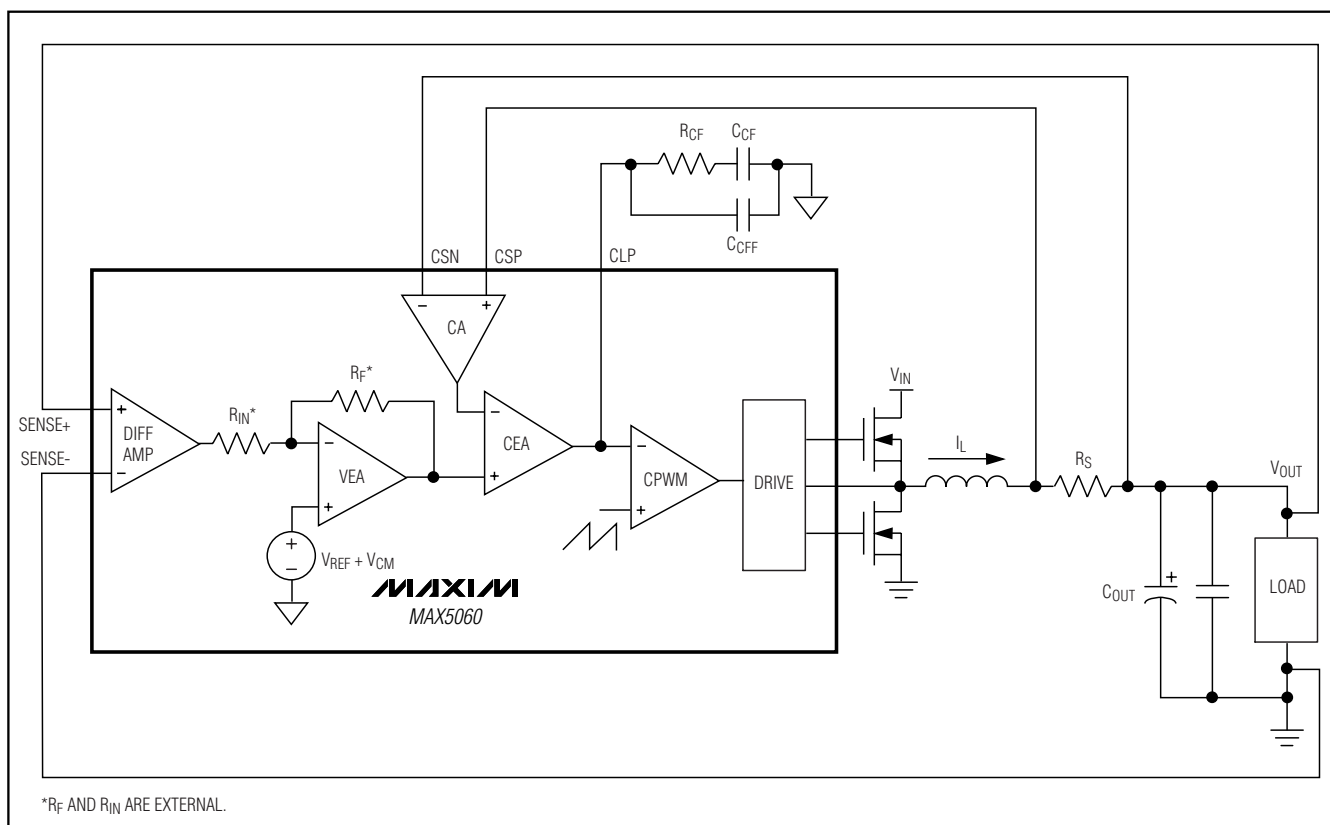

Figure 5. MAX5060 Control Loop
The MAX5060/MAX5061 use an average-current-mode control scheme to regulate the output voltage (Figure 5). The main control loop consists of an inner current loop and an outer voltage loop. The inner loop controls the output current (IPHASE), while the outer loop controls the output voltage. The inner current loop absorbs the inductor pole reducing the order of the outer voltage loop to that of a single-pole system.
The peak-current comparator provides a path for fast cycle-by-cycle current limit during extreme fault conditions such as an output inductor malfunction (Figure 5). Note the average current-limit threshold of 26.9mV still limits the output current during short-circuit conditions. To prevent inductor saturation, select an output inductor with a saturation current specification greater than the average current limit. Proper inductor selection ensures that only the extreme conditions trip peak-current comparator, such as a broken output inductor. The 60mV threshold for triggering the peak-current limit is twice the full-scale average current-limit voltage threshold. The peak-current comparator has only a 260ns delay.
The MAX5060/MAX5061 has a transconductance current-error amplifier (CEA) with a typical g_m of 550 μ S and 320 μ A output sink- and source-current capability. The current-error amplifier output CLP, serves as the inverting input to the PWM comparator. CLP is externally accessible to provide frequency compensation for the inner current loops (Figure 5). Compensate (CEA) so the inductor current down slope, which becomes the up slope to the inverting input of the PWM comparator, is less than the slope of the internally generated voltage ramp (see the *Compensation* section).
The PWM comparator (CPWM) sets the duty cycle for each cycle by comparing the output of the current-error amplifier to a 2V_{P-P} ramp. At the start of each clock cycle, an R-S flip-flop resets and the high-side driver (DH) turns on. The comparator sets the flip-flop as soon as the ramp voltage exceeds the CLP voltage, thus terminating the ON cycle (Figure 5).
The differential amplifier (DIFF AMP) facilitates output-voltage remote sensing at the load (Figure 5). It provides true-differential output voltage sensing while rejecting the common-mode voltage errors due to high-current ground paths. Sensing the output voltage
Set the voltage-positioning window (ΔV_{OUT}) using the resistive feedback of the voltage-error amplifier (VEA). Use the following equations to calculate the voltage-positioning window (Figure 5):